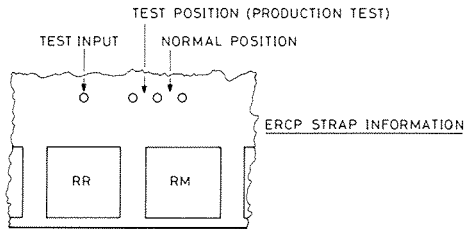

Figure 6.5 ERCP FRONT PANEL AND STRAPPING
6.7 INTRODUCTION ERCP (FIGURE 6.5)